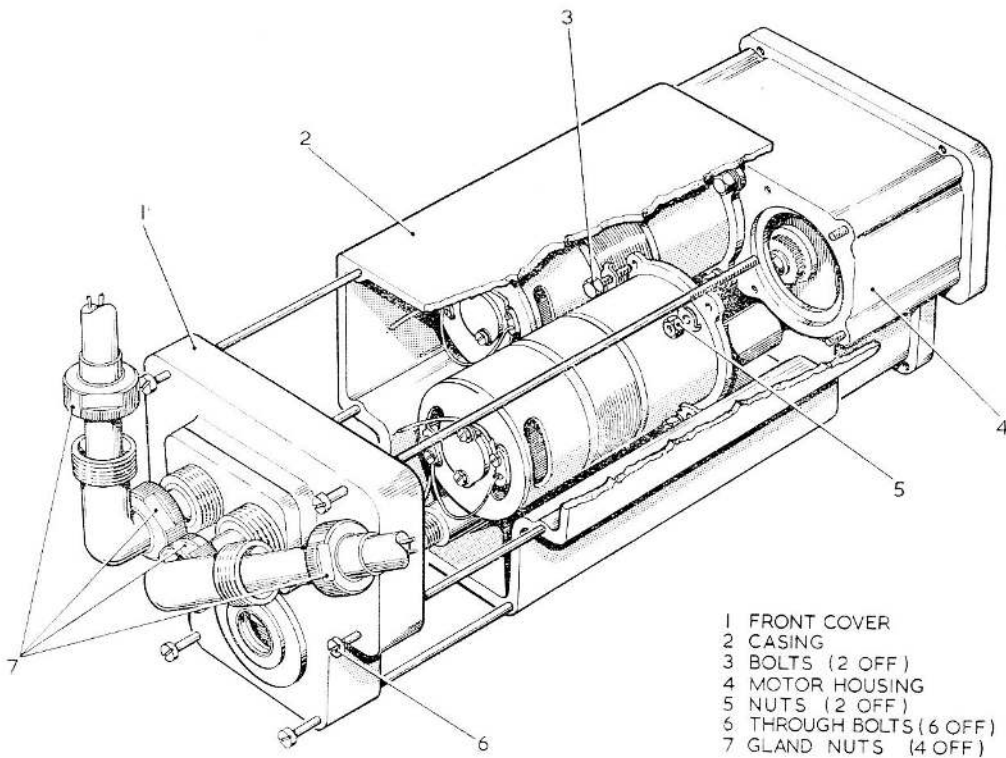

Fig. 7. Partially exploded view of actuator
(1) Remove the front end fitting (if any), the nut on the plunger and the six through bolts (6) securing the front cover (1).
(2) Slacken the four gland nuts (7) and coat the cables liberally with a suitable lubricant. Carefully ease the cables through the elbows and entry glands, so that the front cover and casing (2) can be separated and removed sufficiently to gain access to the motors.
(3) Disconnect the main motor leads from the limit switches and the common yellow lead from the motor. Unlock the tab washers and remove the two nuts (5) and two bolts (3) securing the main motor to the motor housing (4). Remove the tab washers and withdraw the main motor.
28. Examine the main and auxiliary motor brushes and replace them if still serviceable. If the auxiliary motor brushes require renewal, the auxiliary motor must be removed from the actuator in a similar manner to that described for the main motor. The partially dismantled actuator is shown in fig. 7.